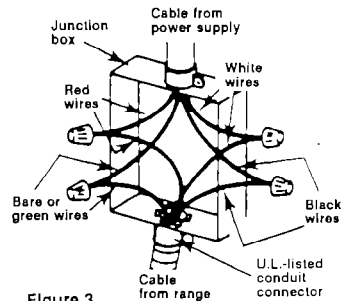

Figure 3
Four-wire power supply cable must be used in a mobile home installation. The appliance wiring will need to be revised. See Electrical requirements, Figure 3, Panel B.
4. Connect the two black wires together, then the two red wires together. See Figure 3.